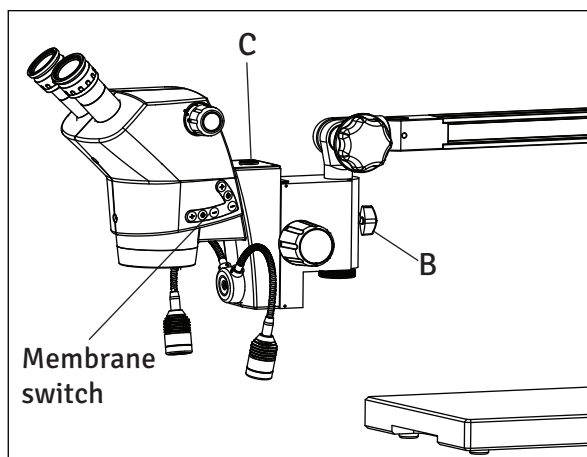

Fig.3a
5.6 An external light source is included, connect the light source to the microscope at Port 'C' in fig 3a. Plug in the microscope and turn it on. If no light emerges from the light source, adjust the Membrane switch fig-3a.